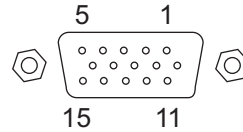

Figure 4-6: External Control Connector Pin Numbering
3. Next, connect a cable with a 15-pin D-sub connector to the EXTERNAL CONTROL connector on the controller. The sequence for the pin numbering is shown in Figure 4-6 (looking at the controller connector). Pin numbers proceed from right to left.